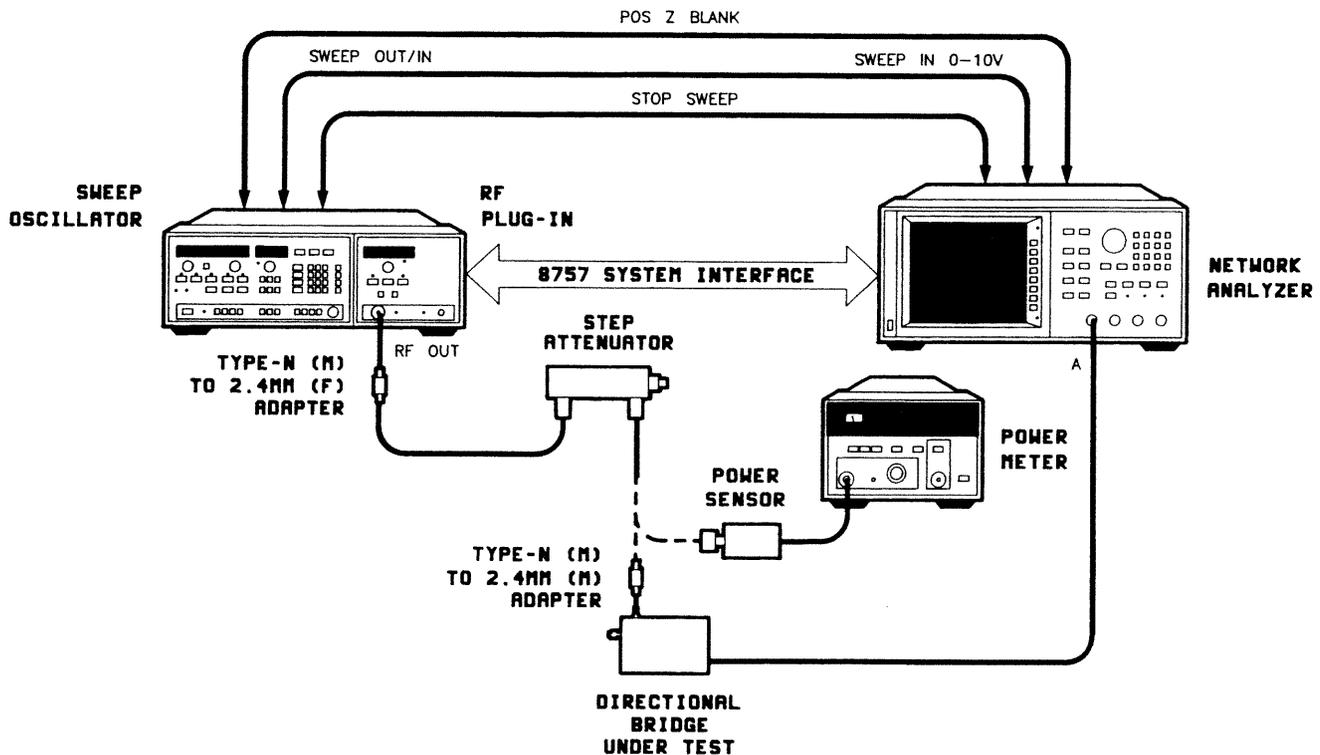

Figure 5-2. Adjustment Test Equipment Setup
1. Connect the equipment as shown in Figure 5-2 with the power sensor connected to the attenuator. Allow 30 minutes for warm-up. Set the bridge configuration switch to **HP 8757**.